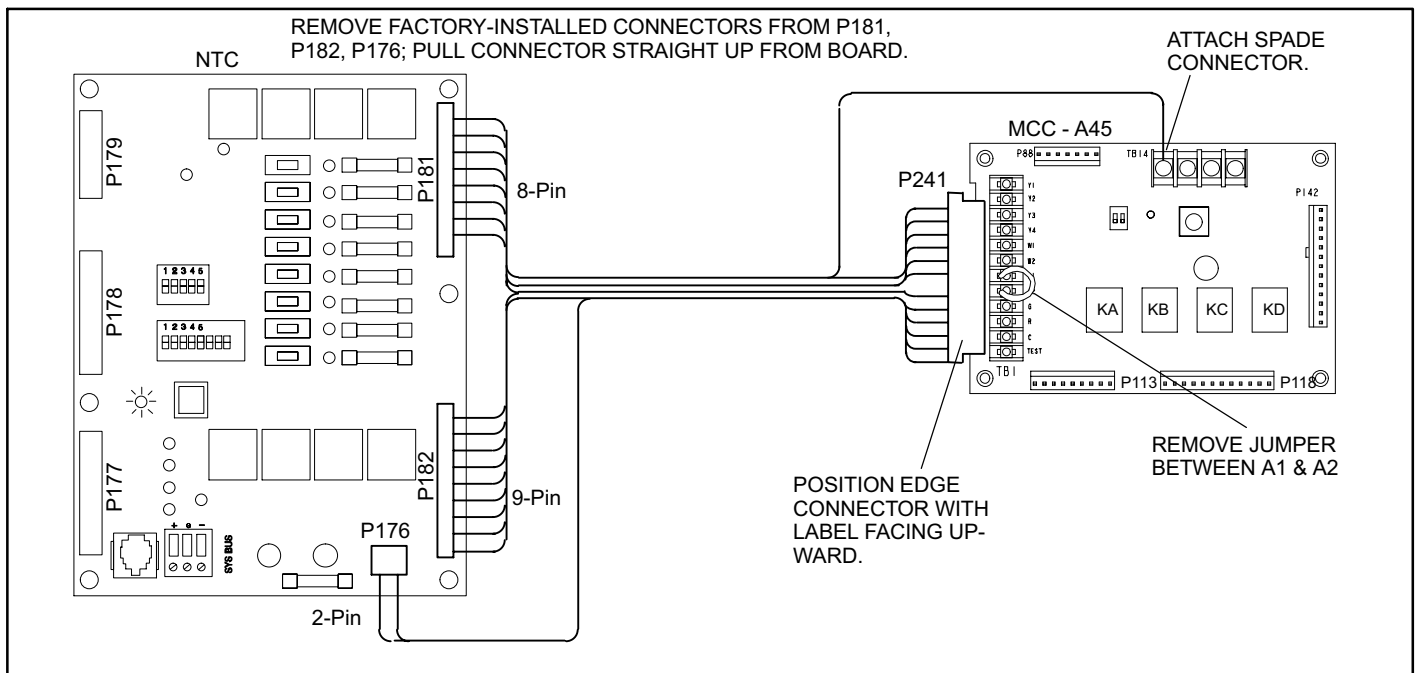

Figure 1. Wiring
4. Remove P176, P181, and P182 factory-installed connectors from the NTC. See figure 1. Pull connector straight out of controller to prevent damage to pins.
5. Make harness connections as shown in figure 1.